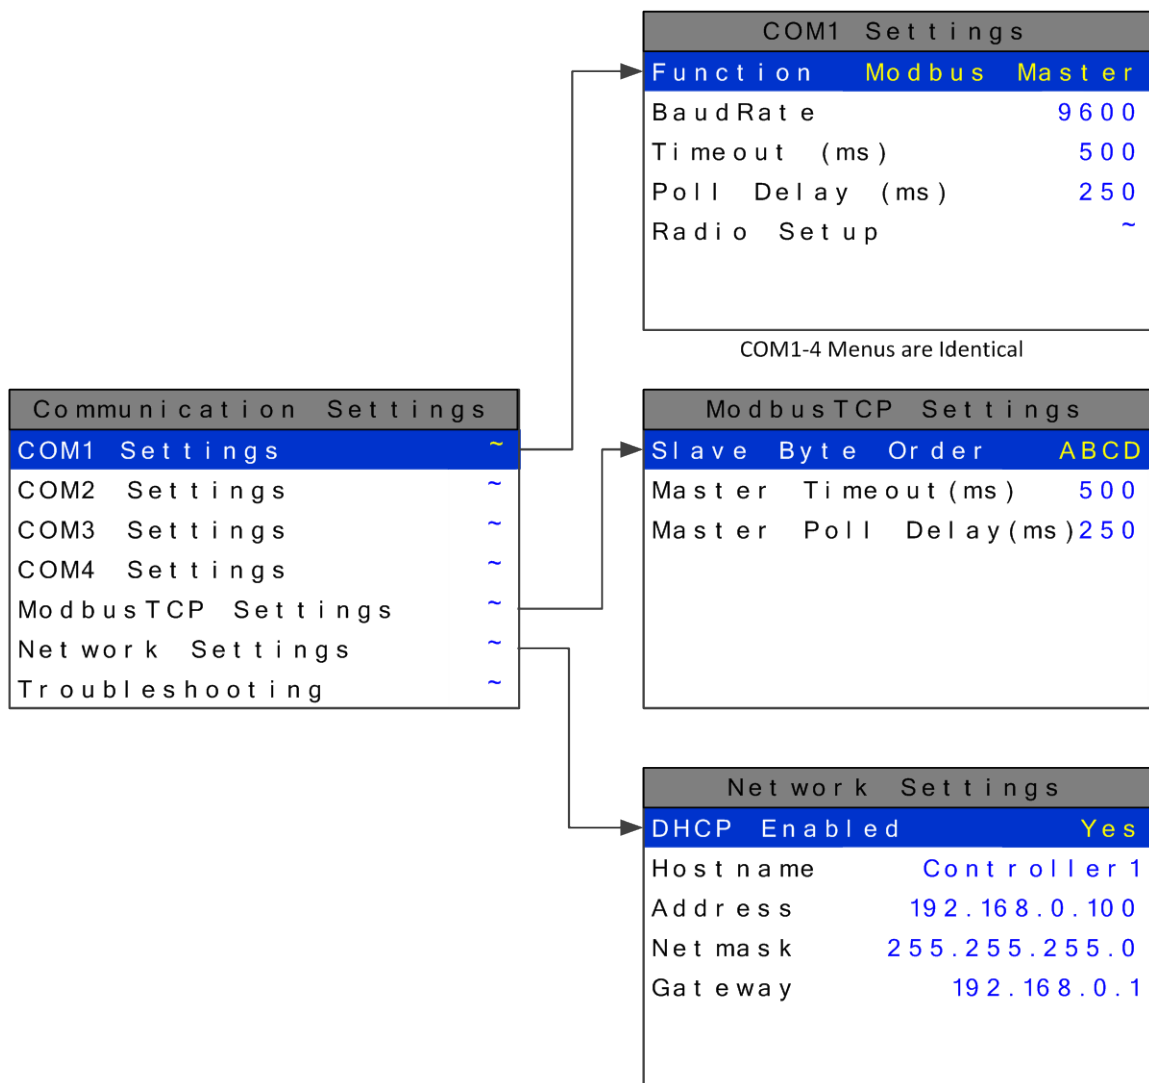

Figure 2-21
**COMMUNICATION SETTINGS** entry menu, shown on left in Figure 2-21; use /